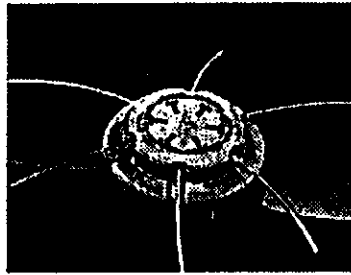

Fig. 4
4. With firm pressure push disposable stringhead onto carrier until an audible click is heard (Figure 4).